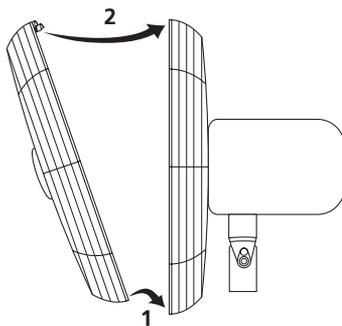

FIGURE 10
25. With the Hunter logo facing forward and upright, engage the tabs on the lower part of the Front Grille into the rim of the Back Grille, as shown in Figure 10, arrow 1. Then, move the top of the Front Grille as shown in Figure 10, arrow 2, so that the tab at the top of the Front Grille snaps under the rim of the Back Grille.